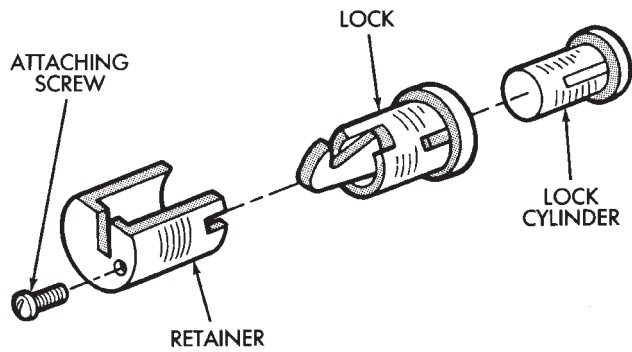

Fig. 29 Console Cover Lock Removal/Installation
- (1) Open the console cover.
- (2) Remove the screw that attaches the retainer to the lock and then remove the retainer from the lock (Fig. 29).
- (3) Remove the lock, cylinder and key as a unit from the console cover (Fig. 29).
- (4) Manually position the lock latch to simulate a closed cover position.